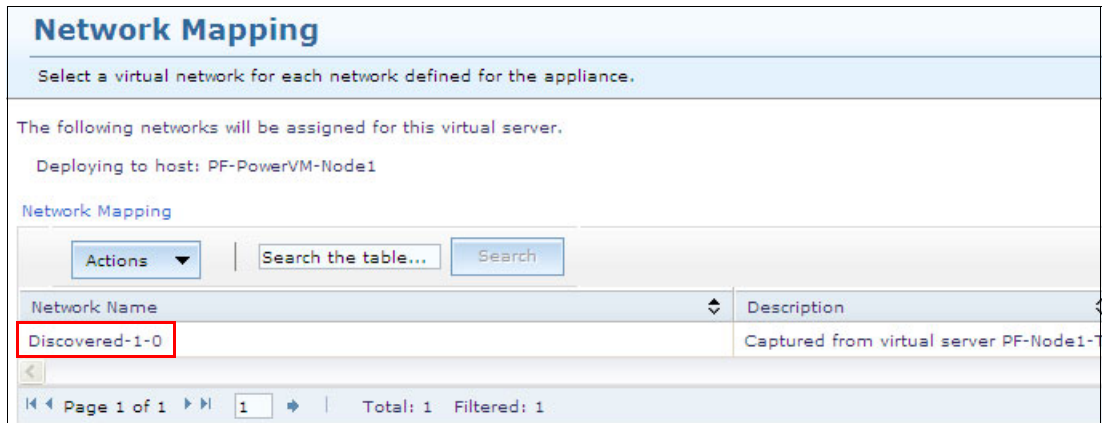

Figure 10-154 Network Mapping window
6. Figure 10-154 shows the networking mapping. Click **Next**.